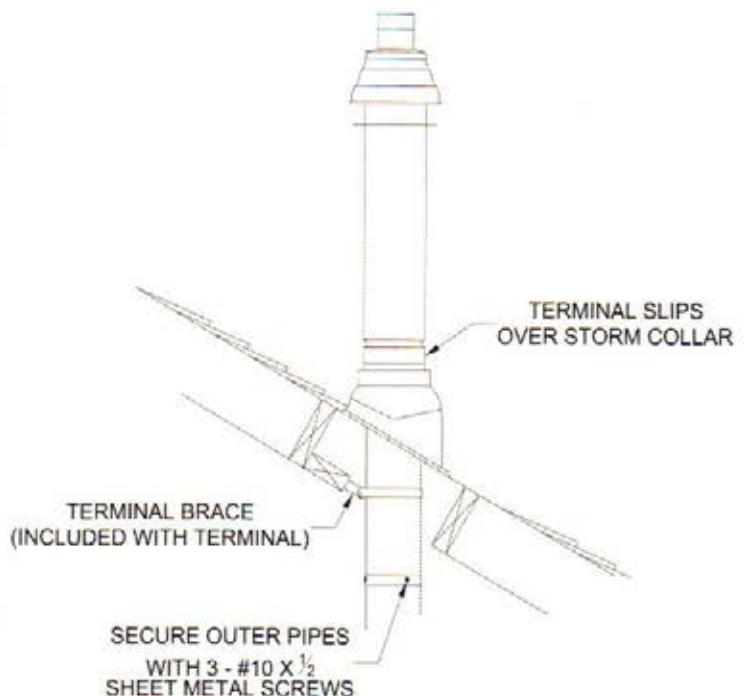

Figure 30: Completing Vertical Terminal Installation
- Secure the terminal section to the inside of the roof structure using the mounting bracket provided with the terminal (Figure 30).